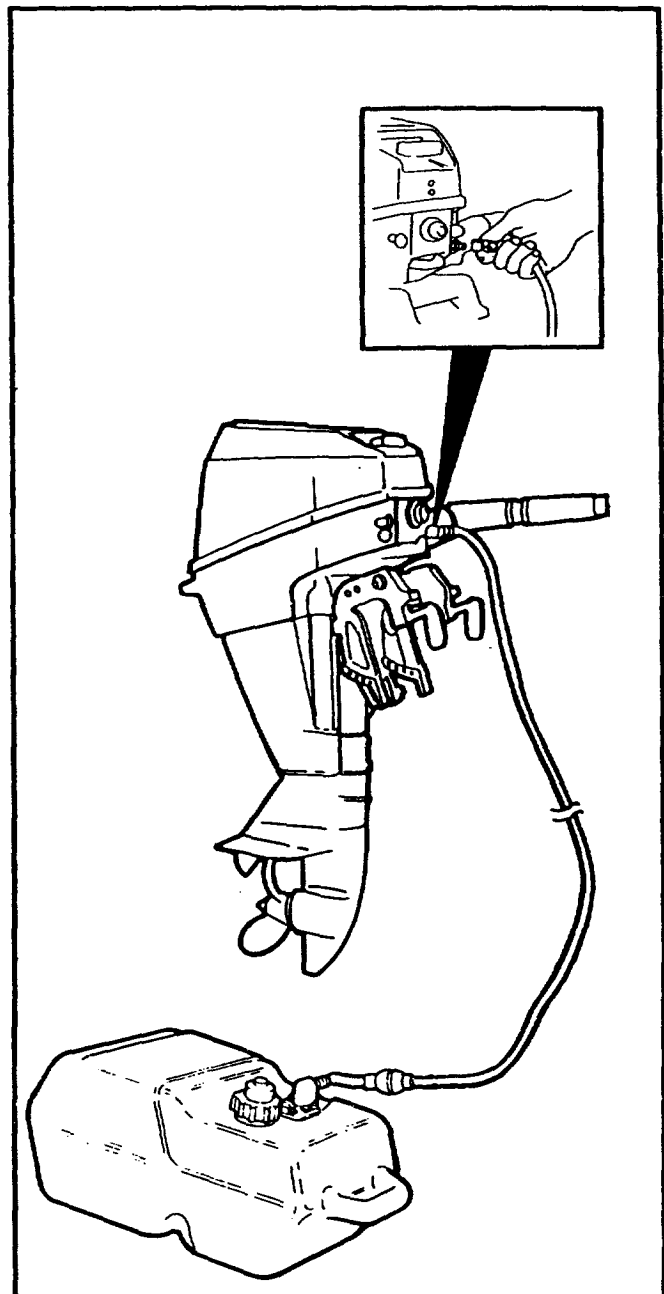

FIGURE 16
- Connect fuel line to quick-disconnect fitting in front of motor. (Figure 16)